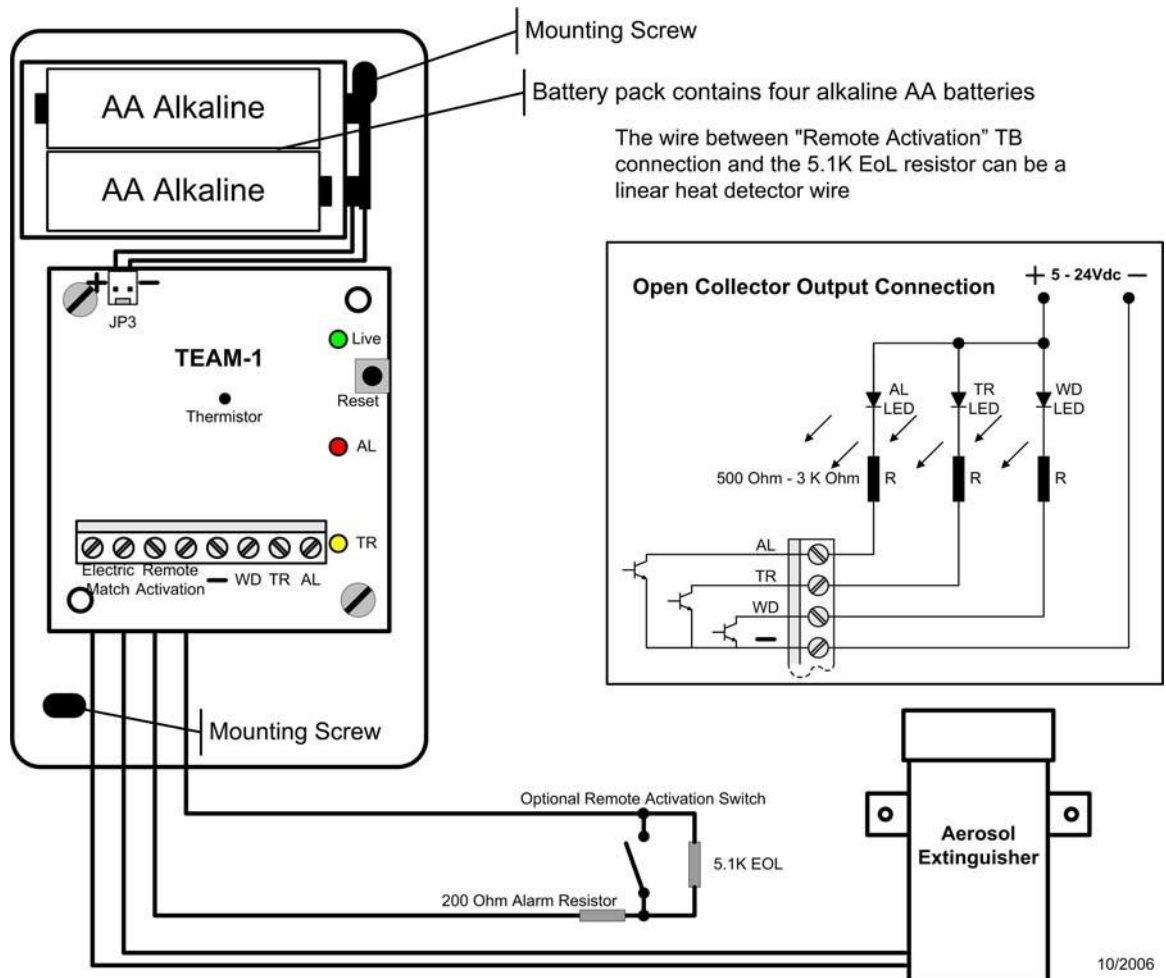

Figure 2 TEAM-1 Connection
2. Secure the module to the top surface of the protected space (see Figure 2 on page 2 for location of the openings for mounting screws).
3. Connect the aerosol extinguisher to the terminal marked "**ELECTRIC MATCH**". Connect the optional remote activation switch to the "**REMOTE ACTIVATION**" terminal, if required. Connect the 5.1K End of Line resistor to the switch as indicated by Figure 2. If the system is supervised by a Building Management System (BMS), connect the Alarm (AL), Trouble (TR), and Watchdog, (WD) open-collector outputs to the appropriate BMS inputs. Secure the cable mechanically with a Tie Wrap
4. Insert four alkaline AA batteries in the battery pack and connect it to connector JP3 (see Figure 2).